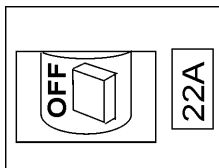

Figure 10. Main Breaker (OFF Position)
2. **NEVER start** the engine with the **main circuit breaker** in the "ON" position. Place the main circuit breaker (Figure 10) in the **OFF** position.
- Place the **main circuit breaker** (Figure 10) in the **OFF** position.